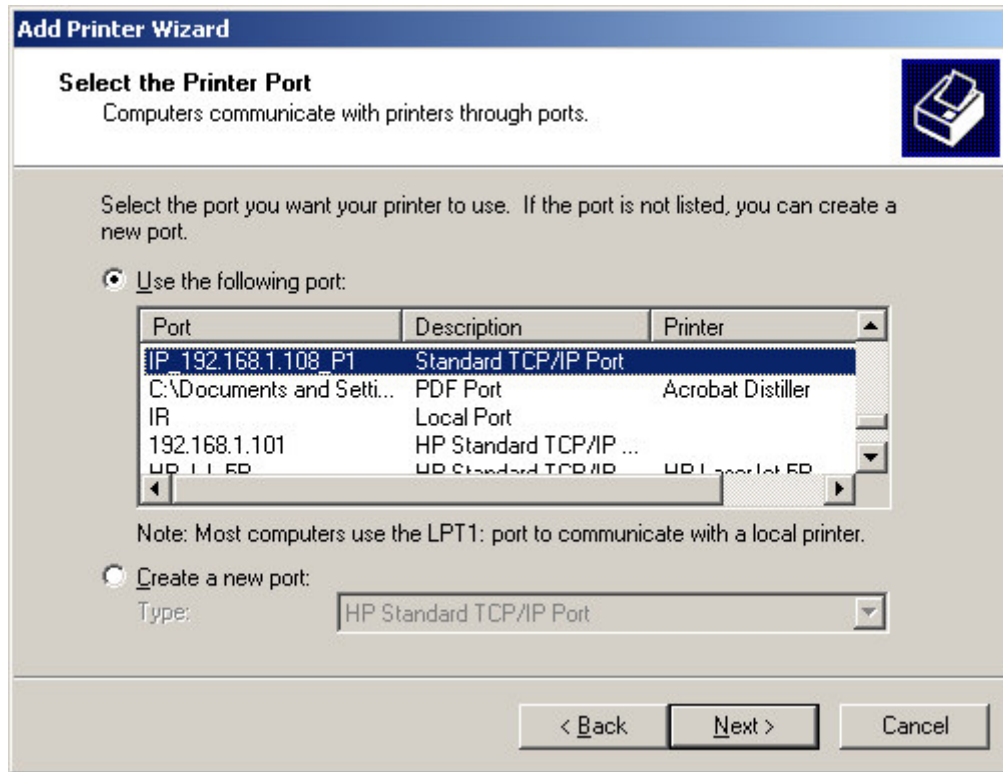
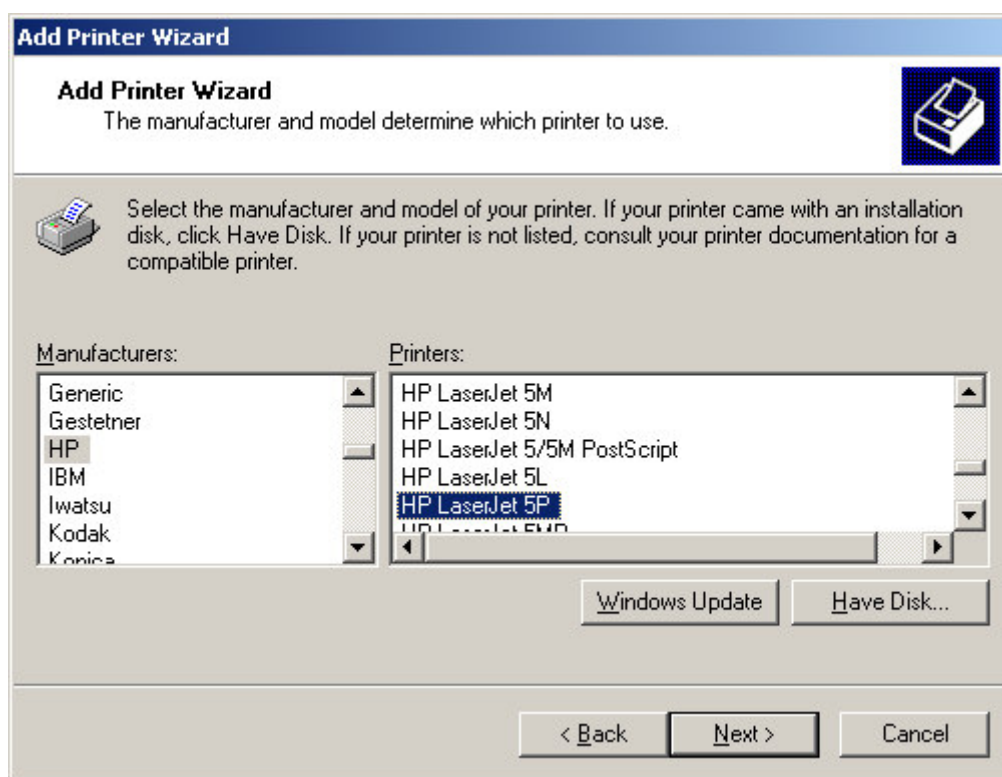

Figure 4-22 Find and select the printer port
Figure 4-23 Add Printer Wizard
If you are a Microsoft Windows 9x (95, 98, and ME) user, you will not see this window here. You probably will go to a different window like Figure 4-23 first, after that you'll find the similar window here.
2. Use the printer port name written at the last section. Scroll down and find the printer port name. For example, the printer port name here is 'IP_192.168.1.108_P1'. See Figure 4-22 Find and select the printer port. For Windows 95, and 98 users, this window will show up after Add Printer (Figure 4-23 thereafter).
Add Printer Wizard, Figure 4-23 Add Printer Wizard window, shows. Choose the manufacturer and the model name of the printer. If there is a CD provided with the printer, insert the CD and click on 'Have Disk...' button. Follow the instruction on screen to install the correct driver.